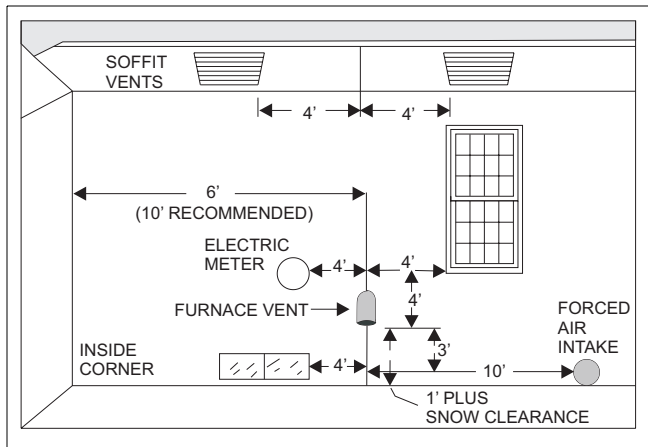
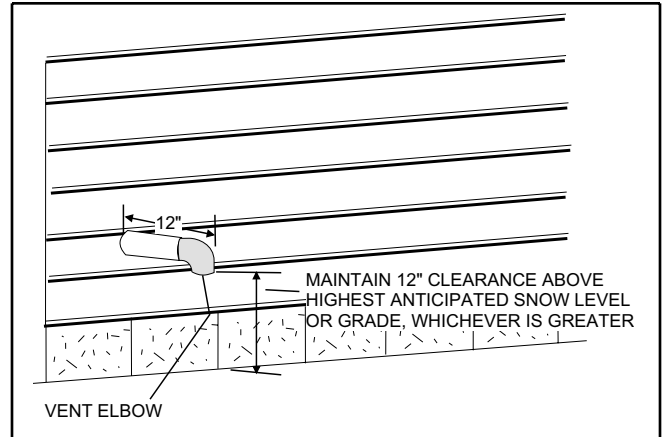

FIGURE 26 : Minimum Vent Terminal Clearances (1-Pipe System) - U.S. Only
FIGURE 27 : Horizontal Termination Configuration with 12" Minimum Clearance
1. Comply with all clearance requirements. Refer to Figure 26 on page 21.
The vent must be installed with the following minimum clearances (refer to Figure 26), and complying with local codes or utility requirements or other authority having jurisdiction.
NOTE: Shaded components of the vent system shown in Figures 27 through 29 are considered to be part of the termination. These components should not be counted when determining piping limitations. Sidewall termination may require sealing or shielding of building surfaces with a corrosive resistant material to protect against combustion product corrosion.
The vent pipe termination must be installed within the allowable locations shown in Figure 26 and Section 7.8 in the National Fuel Gas Code, ANSI Z223.1 (current edition). Follow all local agency and utility requirements if more restrictive than those shown. Vent termination must be as shown in Figures 27 through 29.